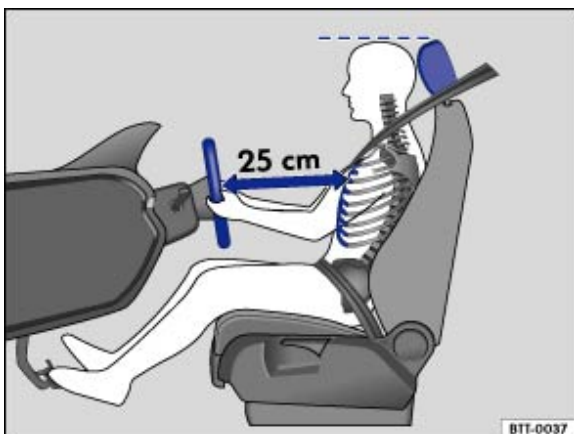
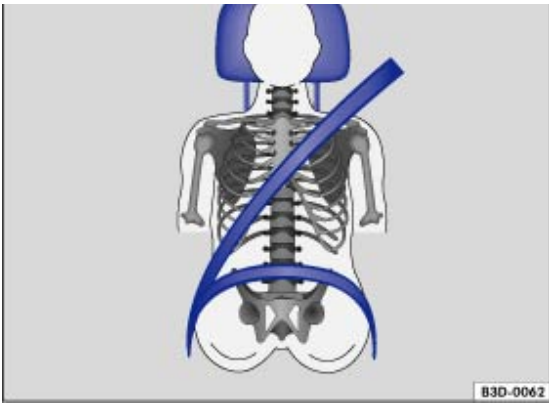

Fig. 38 There must be a distance of at least 25 cm between the driver and the steering wheel
Fig. 39 Correct seat belt routing and head restraint adjustment
- Adjust the head restraint so that its upper edge is at the same height as the top of the head, but not lower than eye level. Position the back of your head as close to the head restraint as possible → *Fig. 38* and → *Fig. 39*.
- Adjust the steering wheel so that the distance between the steering wheel and your breastbone is at least 25 cm → *Fig. 38* and the circumference of the steering wheel can be held at the sides with the arms slightly bent.